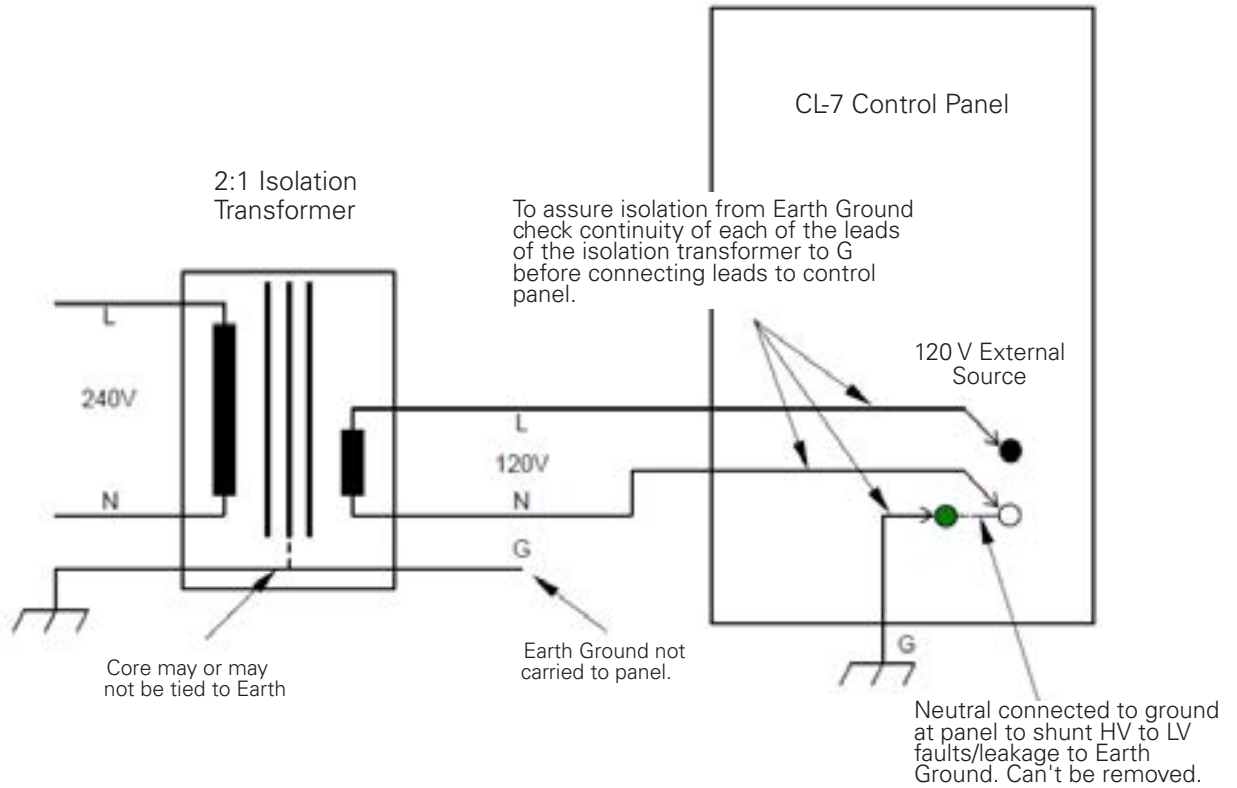

Figure 1-4. 240 Vac Application with Eaton's Cooper Power series 120 V Control - Option 1.
Since the control is configured for 120 Vac, a 2:1 isolation transformer must be used to step and isolate the supply voltage. This isolation transformer must isolate both the neutral and line on the secondary side. Also, the neutral and ground on the secondary side should not be bonded or connected. To check isolation from earth ground, check the continuity of each lead on the isolation transformer with respect to ground (G). Check this before connecting the leads to the control panel. See Figure 1-4.